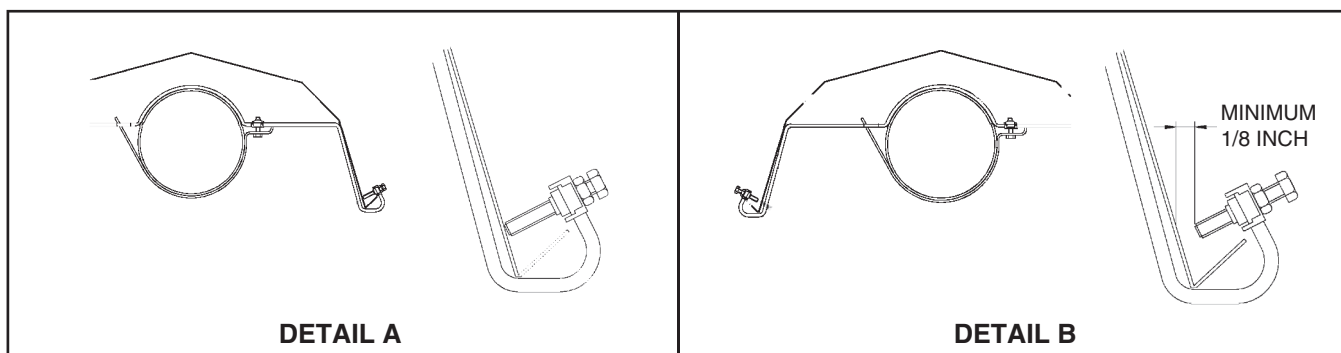

Figure 14. Non-Slip and Slip Reflector Bracket Overlaps
- b. Secure reflectors by tightening screws (non-slip overlap) on reflector brackets installed in step 5c as shown in Figure 14, DETAIL A.
- c. For every other reflector bracket, create slip overlap by not tightening reflector bracket screws (see Figure 14, DETAIL B) to allow reflector to float for adjustment.